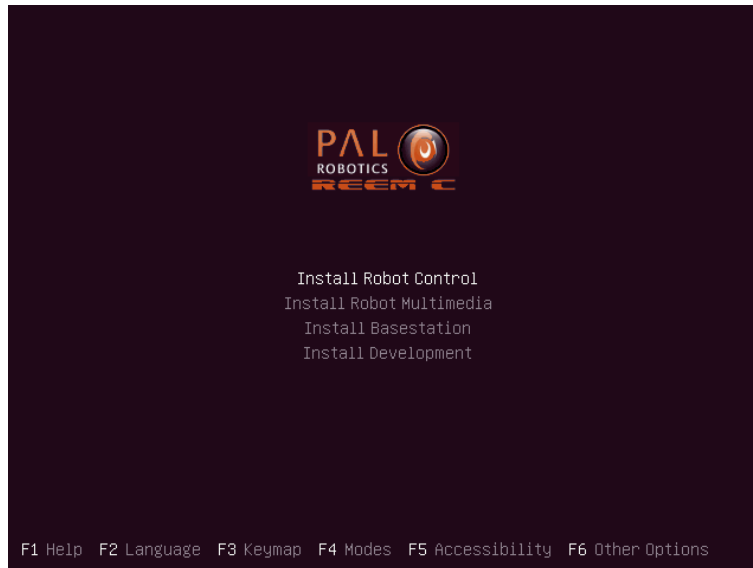

Figure 48: System installation menu
If the BIOS has been configured as indicated in previous section, the menu shown in Figure 48 will appear.
- The menu, shown in Figure 48 will appear, select control or multimedia accordingly.